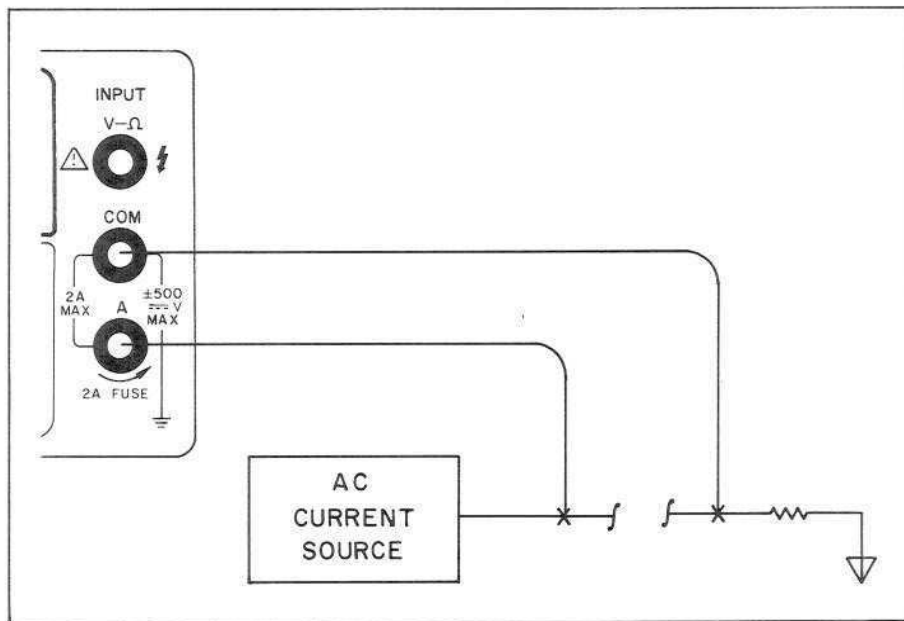

Figure 3-7. AC Current Measurement.
- c. Connect test leads from the Multimeter A and COM terminals in series with the current under test as shown in Figure 3-7.